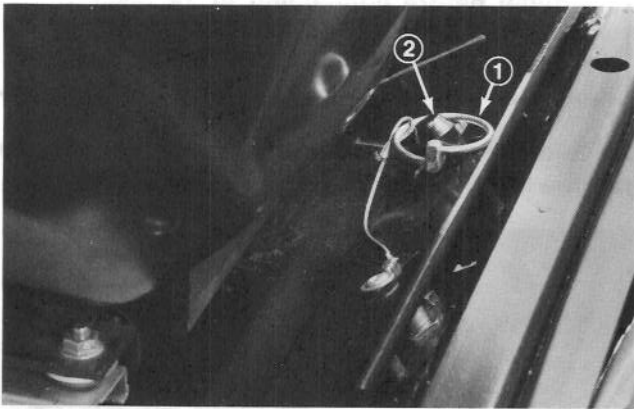
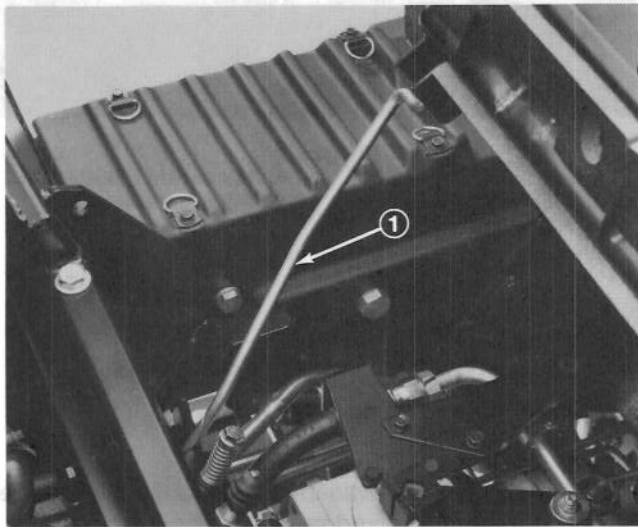

Figure 5
Figure 8
2. Remove lynch pin from seat latch pin (Fig. 5).
1. Remove lynch pin from seat latch pin (Fig. 5) and pivot seat support forward. Hold up seat with prop rod (Fig. 8).